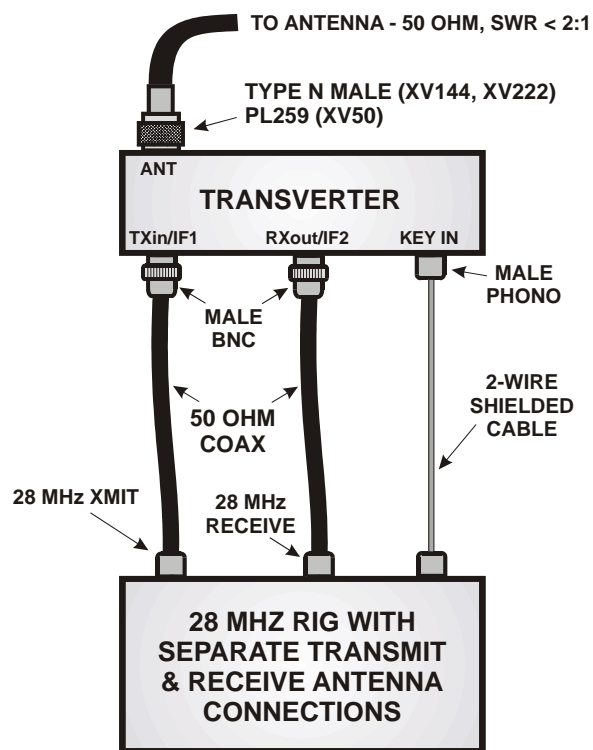

Figure 46. Connecting the Transverter to a Non-Elecraft 28-MHz Rig with Separate Transmit and Receive RF Paths.
- Connect the cables as shown in Figure 46.